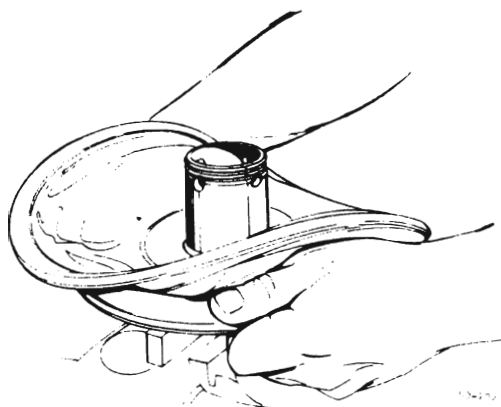

Figure 50-61 Locking or Unlocking Secondary Support Plate and Secondary Power Piston
6. The secondary power piston should still be positioned on tool J-23101. Fold back secondary diaphragm from O.D. of secondary support plate. Grip the edges of the support plate and rotate clockwise to unlock the secondary support plate from the secondary power piston. See Figure 50-61.